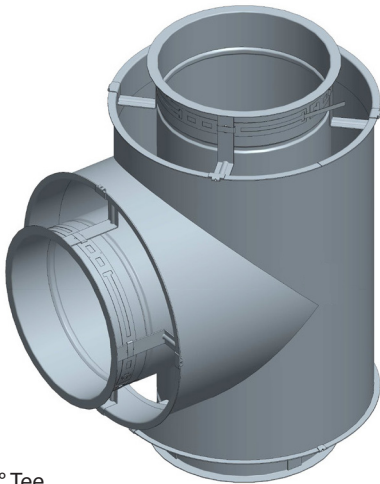

Figure 30 - 90° Tee
12. Install the insulation over the inner wall (DIS1, DIS2, DIS4, DIS3Z). See Figure 30.
The 90° Tee is generally used to connect horizontal connectors into a vertical section as well as a drain or inspection fittings. See Figure 30 for a 90° Tee.